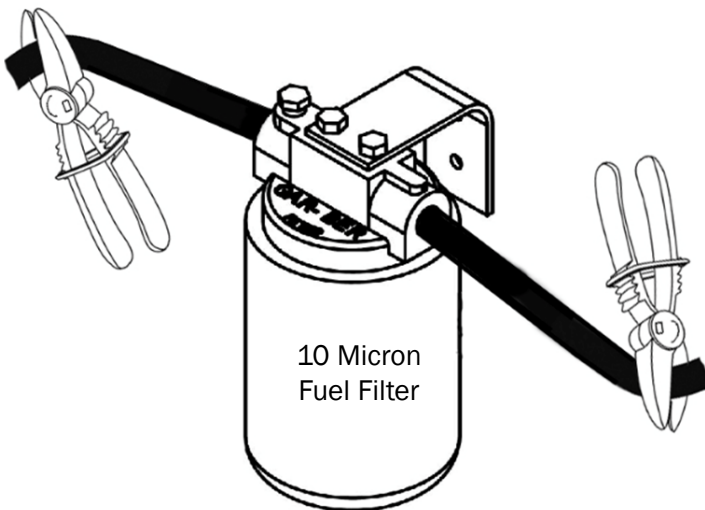

Figure 139
2. Using hose pinch off pliers, clamp off both fuel lines going to the fuel filter. Reference Figure 139.